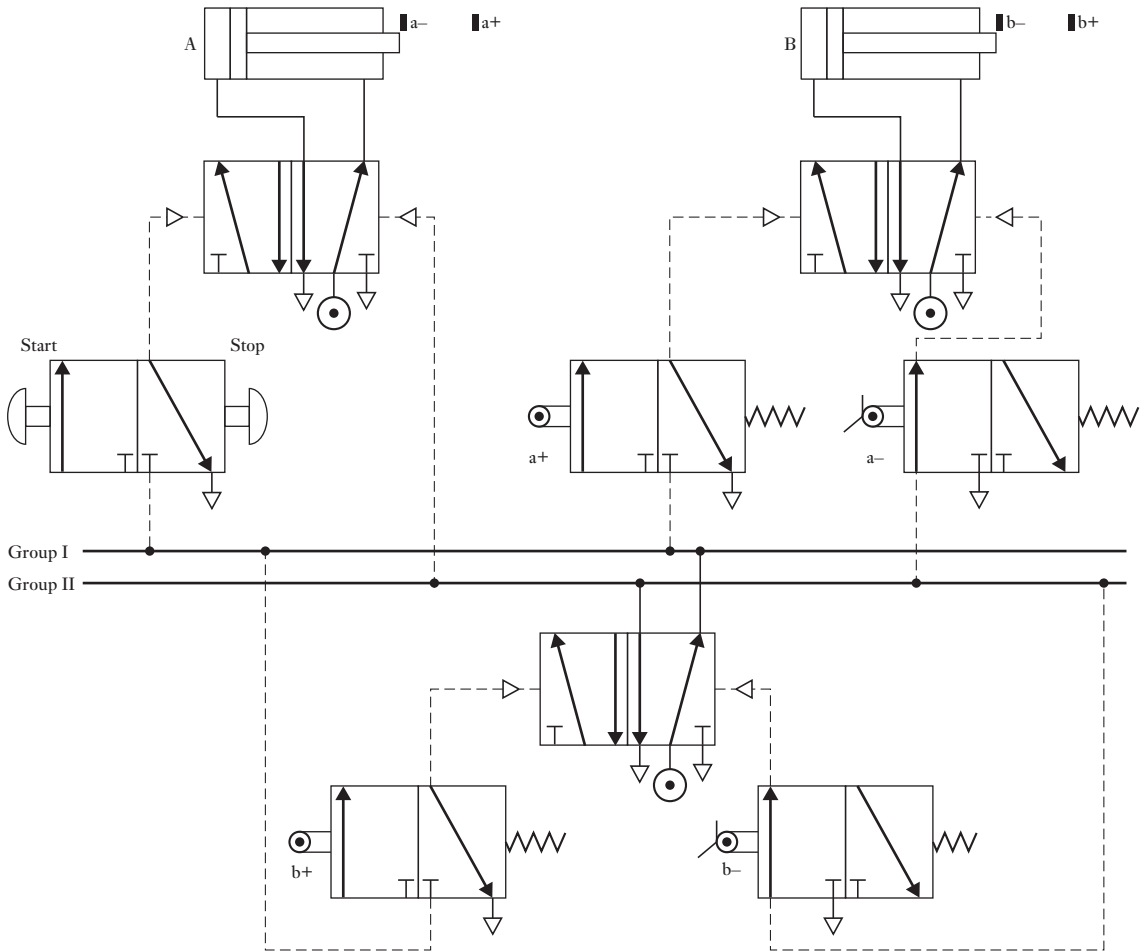

Figure 7.28 Problem 7.5.
- 7.5 State the sequence of operations that will occur for the cylinders A and B in Figure 7.28 when the start button is pressed (a−, a+, b− and b+ are limit switches to detect when the cylinders are fully retracted and fully extended).